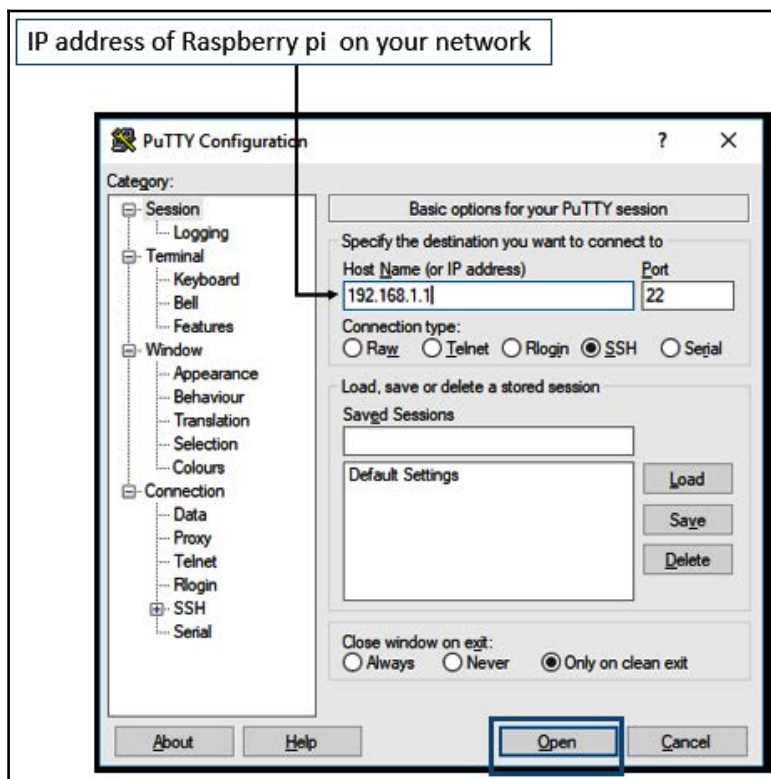

Figure 3.4
2. Include the IP address, which your router has provided to your Pi, as the **Host Name (IP address)** and click on **Open**, as shown in Figure 3.4: